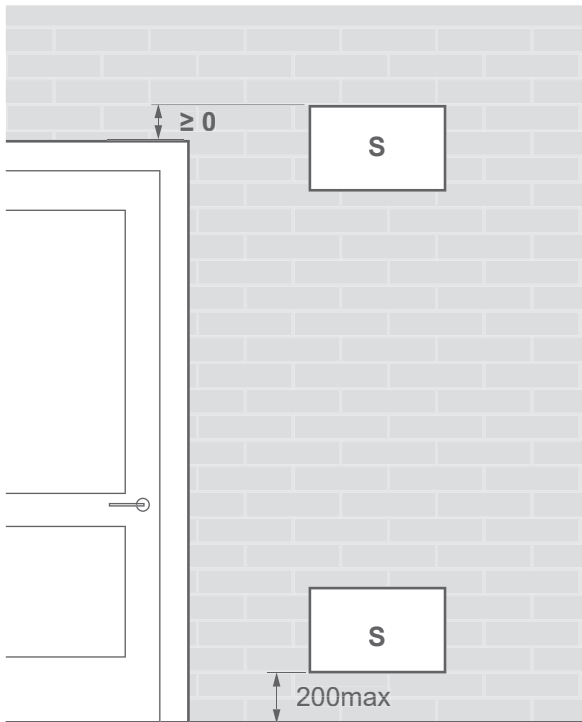

fig. 21 - Position of openings for ventilation
- The room is naturally ventilated with another room, where the total volume of the two rooms is greater than "fluid fill load" (in kg) / 0.3 kg/m³. The two rooms are ventilated with openings of at least: view *fig. 22 and fig. 21*.